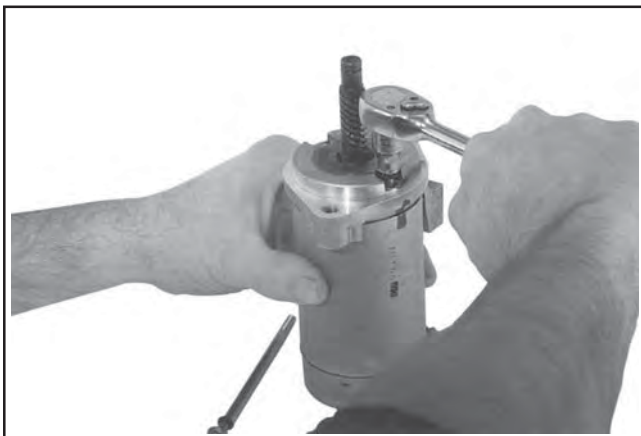

Figure 8-41. Removing Starter Thru Bolt.
4. Remove the two thru bolts, with sealing O-Rings, from the starter. See Figure 8-41.